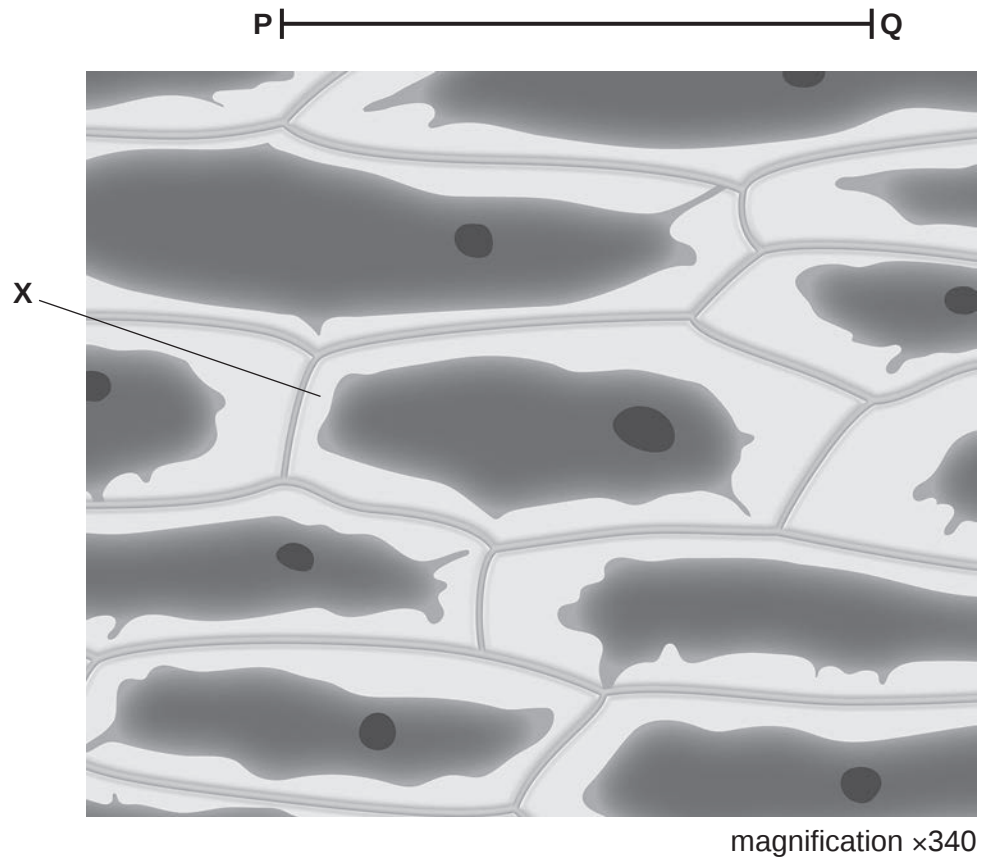

Fig. 2.1
- 2 (a) Fig. 2.1 shows epidermal cells from a red onion.
- (i) Draw a large diagram of the cell labelled **X** in Fig. 2.1.
- (ii) Line **PQ** on Fig. 2.1 represents the length of cell **X**.
Measure the length of line **PQ** on Fig. 2.1.
$$\text{magnification} = \frac{\text{length of line PQ in Fig. 2.1}}{\text{actual length of cell X}}$$